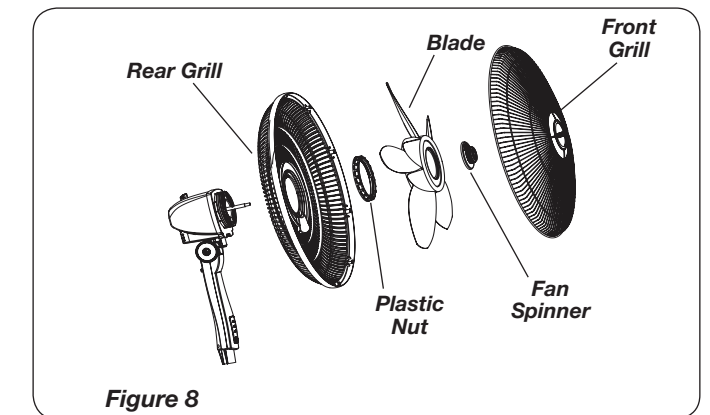

Figure 8
3. Fully seat **Rear Grill** and secure with **Plastic Nut** turning Clockwise. Slide **Blade** onto **Motor Shaft**. (**Figure 8**) Align **Groove** on blade hub with **Pin** on motor shaft. (**Figure 8A**)